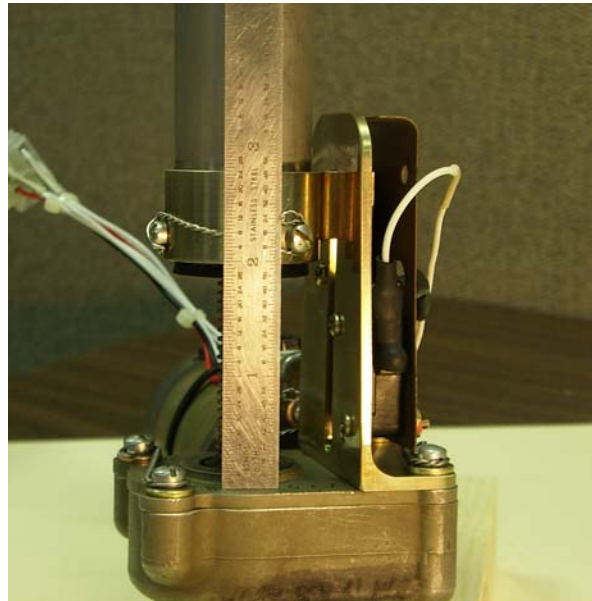

Figure 5: Maximum Travel Limit at 1.95"
- N. Check the spring housing travel and adjust the switch positions to ensure that the retracted and extended spring housing travel are within the limits specified on the drawing or as determined in the note below. Enlist a second person to assist with the cyclic operation while conducting measurements and adjustments (Figure 5).